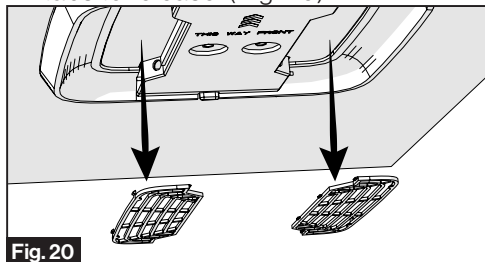

Fig. 20
2. Remove the filters by pushing the tabs to release. (Fig. 20)